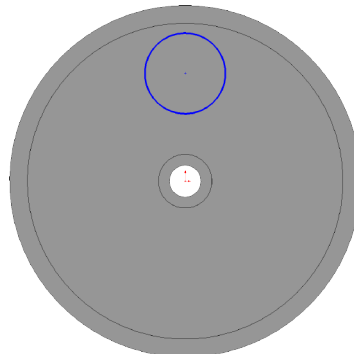

Fig. 14
Step 3. Draw a circle for the hole above the Origin , **Fig. 14**.